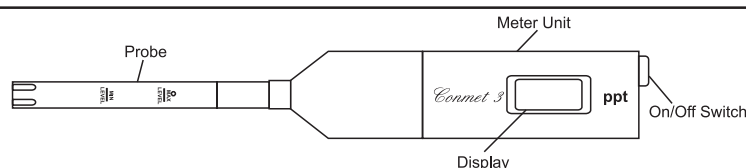

Fig. 1
- Connect the conductivity probe to the meter (Fig. 1) and turn the unit on by sliding the ON/OFF switch on the top of the instrument.